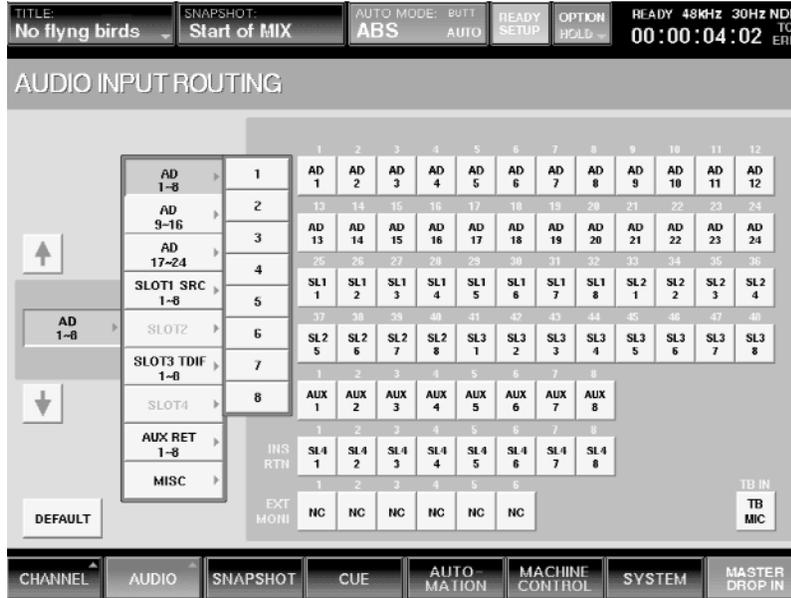

Figure 15
- If you press a SOURCE selection a second time, a second drop-down menu will appear. This menu lists all of the independent sources within that group of 8. For example, press the AD 1-8 button and you will see a listing of the first 8 AD inputs (the head amp connectors). (See Figure 15)